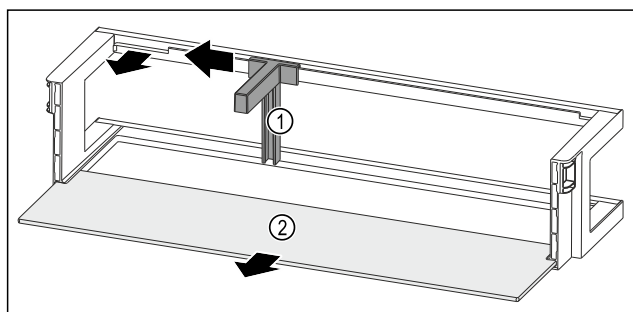

Fig. 133 Door rack with bottle holder and shelf
- Slide the bottle holder Fig. 133 (1) to the side as far as the recess.
- Remove the bottle holder Fig. 133 (1).
- Remove the shelf Fig. 133 (2).